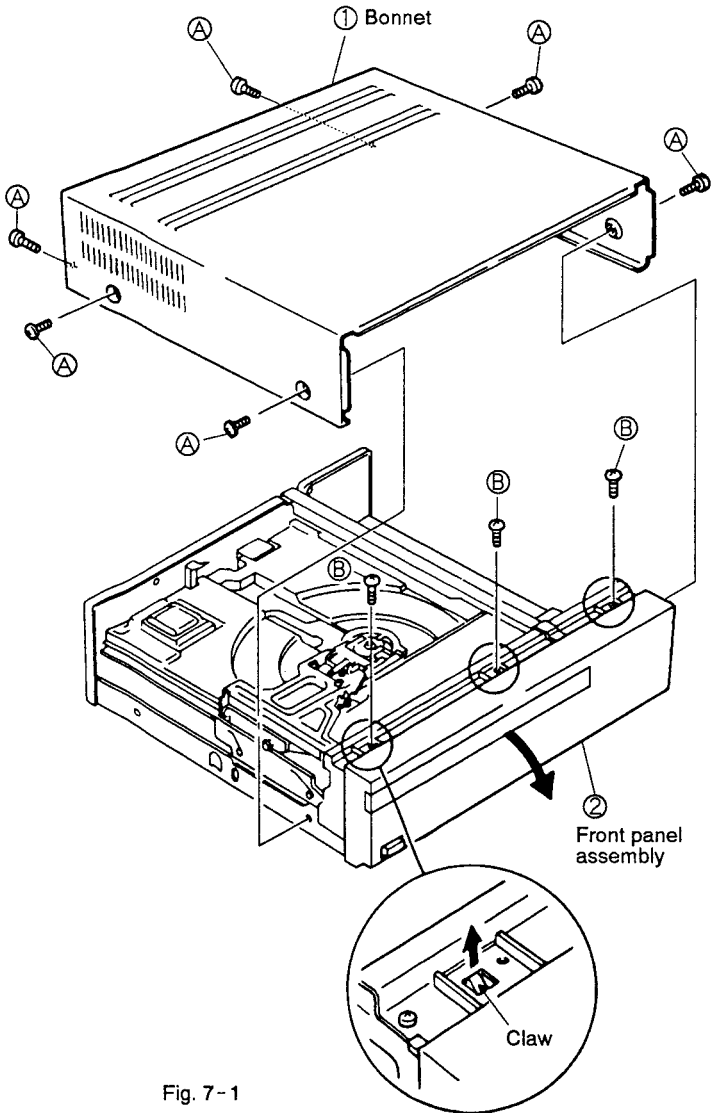
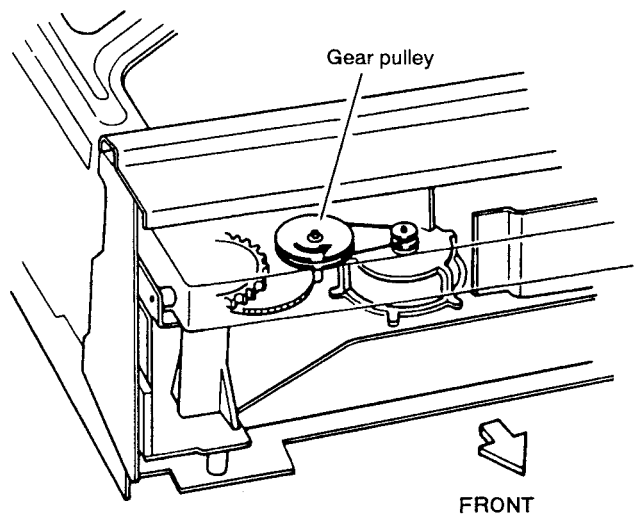

Fig. 7-1
Fig. 7-3
7.1 REMOVING THE BONNET AND FRONT PANEL (Fig. 7-1, 2)
- ① Remove six screws (A) to remove the bonnet.
- ② To remove the front panel assembly, remove three screws (B) and lift the claws as shown in the figure and lower the front panel toward the front.
- ② When the power cannot be turned ON, remove the front panel (Fig. 7-1), and turn the gear pulley shown in Fig. 7-3 counterclockwise, and the tray will slide out toward the front.